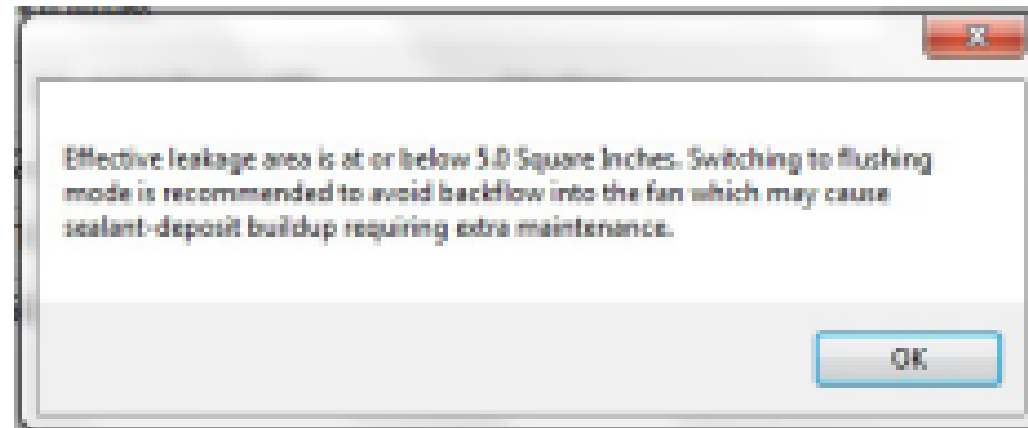

Figure 8. Flush Recommendation Alert
20. If **Start** selected, software continues to monitor for leakage. The seal pauses when it reaches 3 sq. in (20 sqcm). The software autoselects **Flushing**. (See Figure 8)